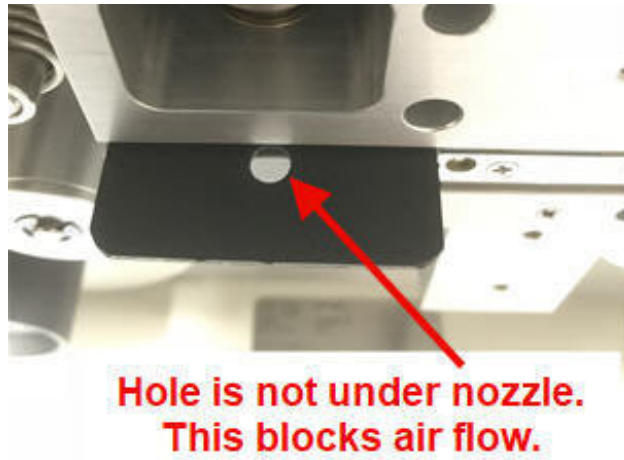

Figure 6-6 Nozzle Seal Tool with Solid Side Under the Nozzle
2. Rotate the Nozzle Seal Tool so that the solid portion of the tool is positioned beneath the nozzle. See Figure 6-6.